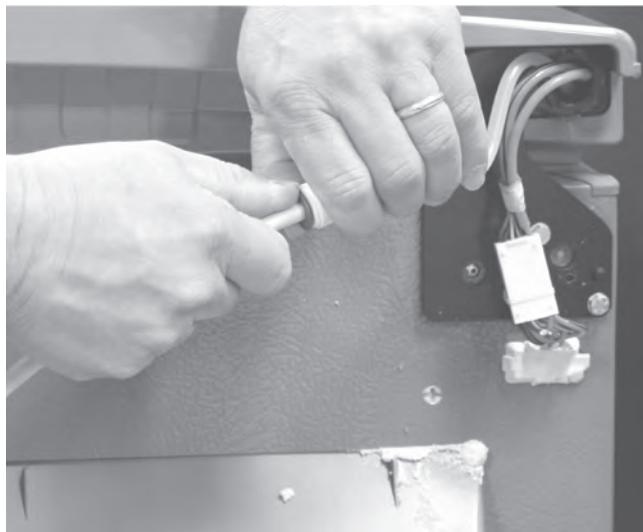

Figure 1
2. Disconnect John Guess Fitting, see figure 1.